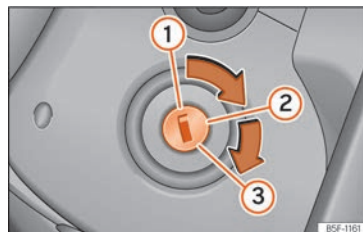

Fig. 137 Ignition key positions.
Positions of the vehicle key » Fig. 137
- 3 Press the brake pedal if the control lamp  lights up green. Connection of the drive system. When the drive system is connected, release the key. When released, the key returns to position » Fig. 137 2